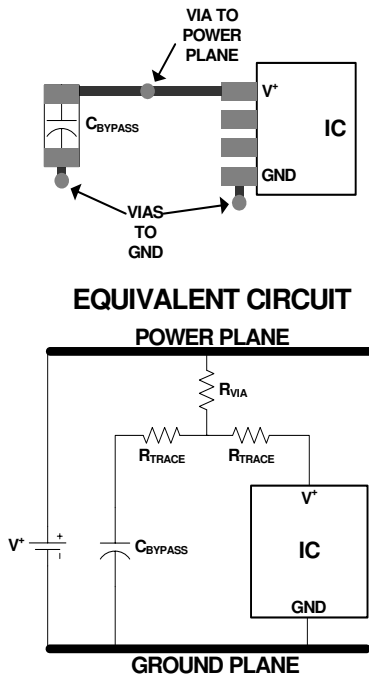
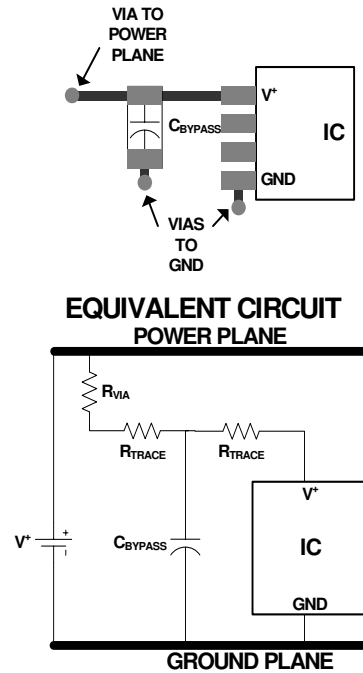

FIGURE 12. SUB-OPTIMAL BYPASS CAPACITOR LAYOUT
FIGURE 13. OPTIMAL (“T”) BYPASS CAPACITOR LAYOUT
- Ideally each supply should be bypassed to ground with a $0.1\mu\text{F}$ capacitor. Minimize trace length and vias to minimize inductance and maximize noise rejection. Figure 12 demonstrates a common but non-ideal PCB layout and its equivalent circuit. The additional trace resistance between the bypass capacitor and the power supply/IC reduces its effectiveness. Figure 13 demonstrates a better layout. In this case there is still series trace resistance (it is impossible to completely eliminate it), but now it is being put to good use, as part of a “T” filter, attenuating supply noise before it gets to the IC, and reducing the amount of IC-generated noise that gets injected into the supply. Follow the good supply bypassing rules shown in Figure 13 to the extent possible.